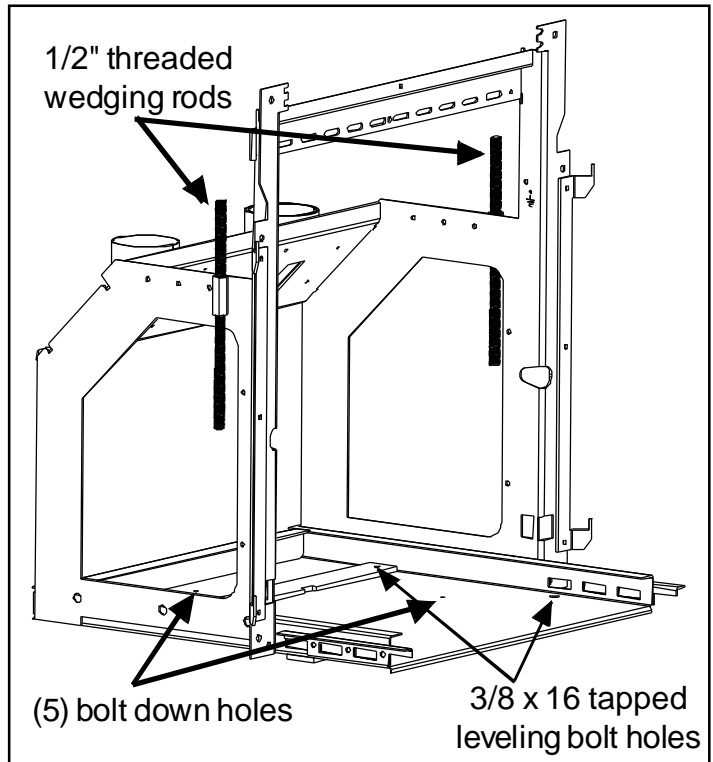

Fig. 26
- Tyrap the sensor wire to the inside of the mounting frame up to the cord grounding location. Follow the power wiring to where you make the male/female terminal connection to the twisted blue wires. There are (2) crimp-on connectors in the hardware pack that must be installed on the internal ends of the room sensor wires.
8. Install the (4) 3/8-16 x 1" leveling bolts into the threaded holes in the bottom pan of the mounting shell. The front two leveling bolts may not be necessary, but the back two will need to be used to level the wing so that it is flush with the fireplace face. See Fig. 26.
11. Tighten the (2) 1/2" threaded wedging rods up against the lintel of the fireplace opening. It is also recommended to use some form of anchoring screws through the bottom of the shell into the hearth. There are up to 5 holes provided. Note: It is a good idea to check the ash lip again. The frame may have shifted when the final anchoring was completed. See fig. 26.